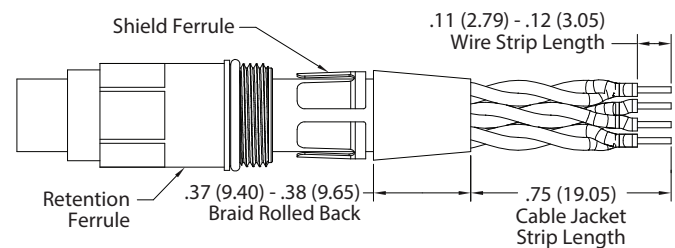

FIGURE 2
- D. Trim outer tape, cable splice, and filler if any as close to the folded back braid shield as possible. (Figure 2)